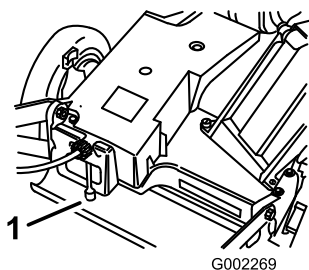
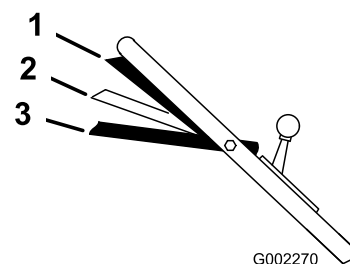

Figure 14
Figure 15
- Lift the blade control bar to the Run/Shift position or Run/Drive position to start the blades (Figure 15).
The mower has three ground speeds. 1 is slow, 2 is medium, and 3 is fast. The ground speed control is located at the rear of the belt cover (Figure 14).
- Move the ground speed control to the Neutral position (Figure 14).
- Squeeze the blade control bar to the Run/Shift position (Figure 15) and move the ground speed control to the desired speed setting (Figure 14).
- Squeeze the blade control bar against the handle to the Run/Drive position (Figure 15).